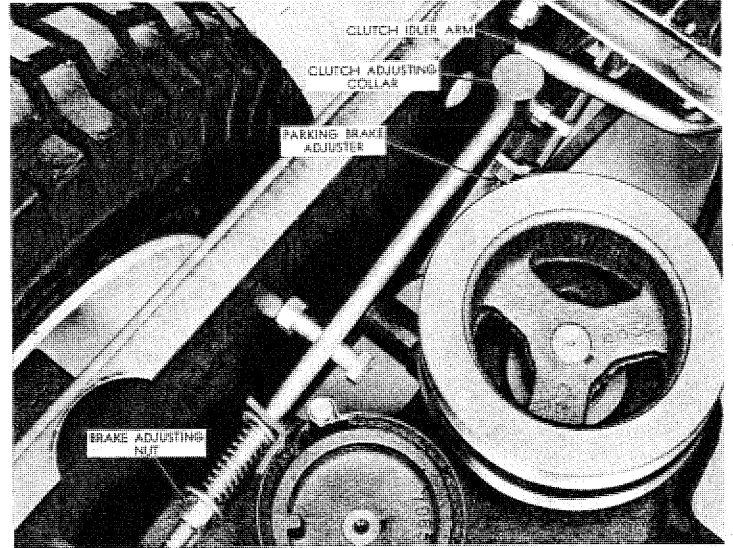

FIGURE 12
- a. Adjust the nut on the end of the brake and clutch rod so the brake band is tight on the drum when the clutch/brake pedal is depressed. See Figure 12.
- b. With the clutch/brake pedal released, loosen the lock nut and set screw and slide the clutch adjusting collar forward until it contacts the clutch idler arm. Then back off  $\frac{1}{8}$ " and tighten the set screw and lock nut securely. See Figure 12.
- c. With the clutch/brake pedal depressed, pull the parking brake lever up and lock in engaged position. Turn the square head set screw (parking brake adjuster, Figure 12) against the shoulder at the bottom of the clutch adjusting collar. Tighten the lock nut securely.